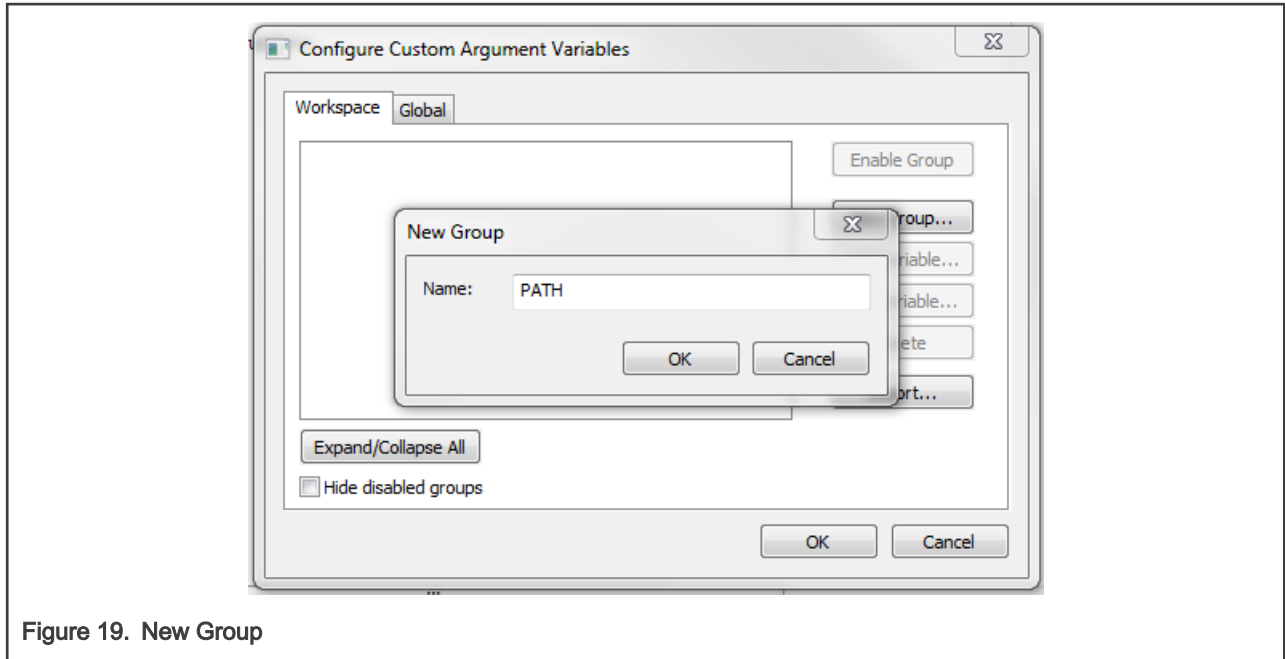

Figure 19. New Group
- Click the New Group button, and another dialog appears. In this dialog, type the name of the group PATH, and click OK. See Figure 19.